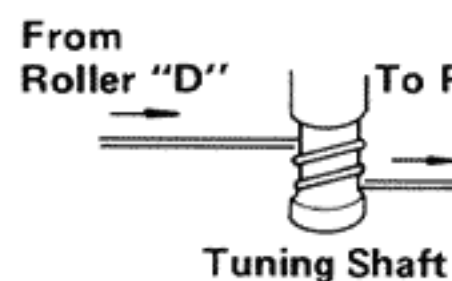
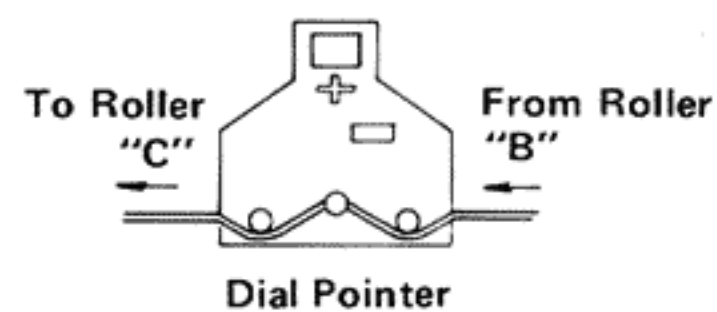
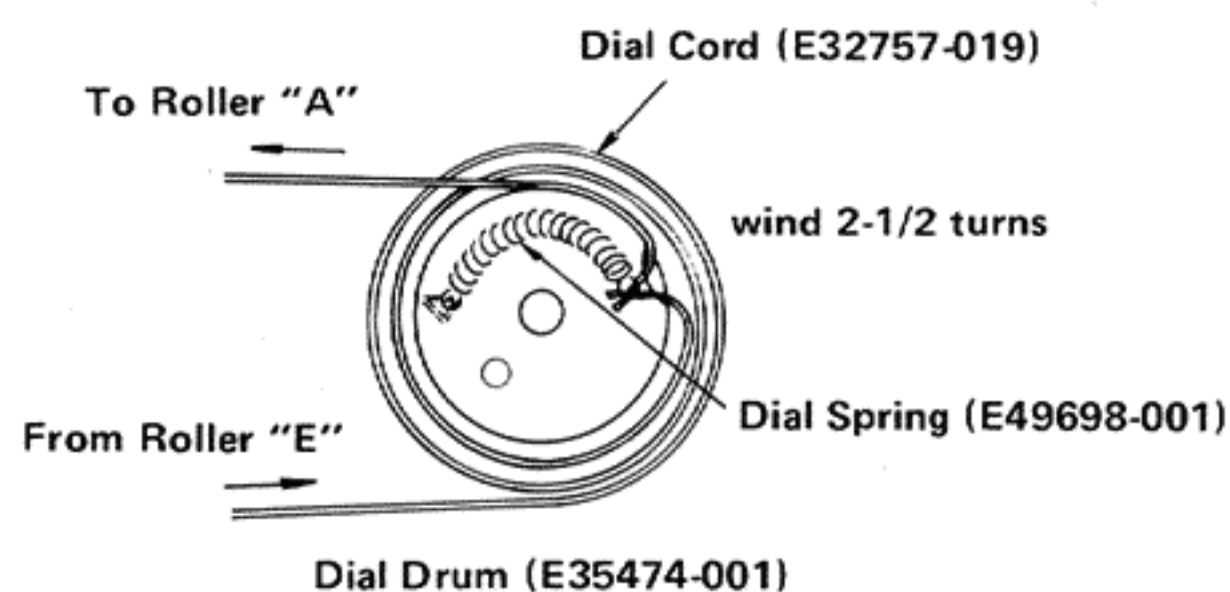

Fig. 12
Fig. 13
Fig. 14
- (1) Remove a heatsink and an Audio Amp. P.C.Board Ass'y (TAP-256C), see page 8.
- (2) Remove the dial pointer and old dial cord.
- (3) Tie end of new dial cord to one end of dial spring, connect other end of dial spring of bottom right eye inside dial drum, see Fig. 14.
- (4) Rotate the tuning capacitor dial drum to it's maximum counterclockwise.
- (5) Run the dial cord through the slot in the rim of dial drum.
- (6) Guide dial cord under and around rollers A, B, C and D. Keep the dial cord taut during this procedures.
- (7) Pull dial cord taut and wrap 2 turns counterclockwise around tuning shaft. Refer to Fig. 12.
- (8) Guide dial cord around roller E.
- (9) Guide dial cord under and around the dial drum and wind 2-1/2 turns counterclockwise, see Fig. 14.
- (10) Turn the tuning shaft to rotate the dial drum fully counterclockwise and fully clockwise to distribute the tensioning along the dial cord.
- (11) Place the dial cord over and under the tabs on the rear of the dial pointer and place the dial pointer on the top of the dial panel rail. Refer to Fig. 13.
- (12) Turn the tuning shaft clockwise. Slide the dial pointer to ZERO (0) calibration marker on the logging scale while holding tuning shaft fully clockwise. Cement the dial pointer to the dial cord to prevent the slippage. Allow cement to dry thoroughly.
- (13) Check the dial calibration. Refer to FM/AM Alignment Procedures on page 9.